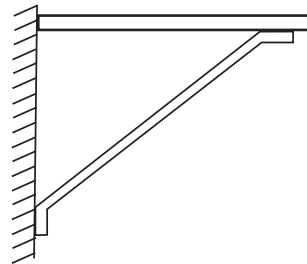

Figure P11.28 Tolerance of a support bracket.
- 11-28.** A unilateral tolerance indicates some deviation in one direction from the mean. If the average length of a support bracket in Fig. P11.28 is 18 in. with a standard deviation of 0.75 in., determine the probability of manufacturing supports between 17.1 and the mean. You may assume the dimensions are normally distributed.